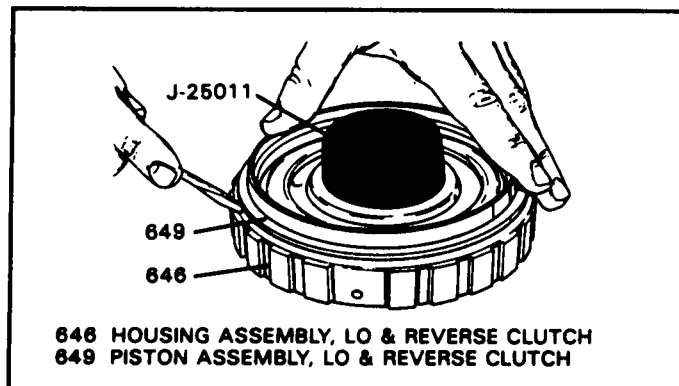

Figure 73
26. Place the lip seal protector J-25011 onto the Lo Reverse housing, as shown in Figure 73.
27. Lubricate the piston lip seals with "Trans-Jel" and install piston into the housing by rotating into position (See Figure 73).